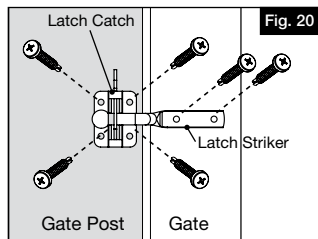

Fig. 20
- Measure and install latch with six (6) 1" Phillips screws as provided with the latch. The latch striker is installed on the gate first and then install the latch catch onto the gate post (Fig. 20).